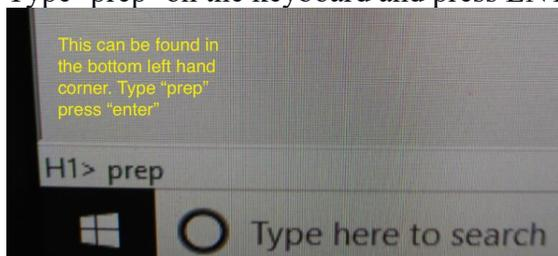

Figure 5. The appearance of the aii software after the selection of H1 nucleus and typing 'prep'
- 3) Choose H₁ nucleus (by default its program is set as H₁ nucleus). Once you selected the nucleus you will see H₁ on the bottom left side of the screen (see figure 5).